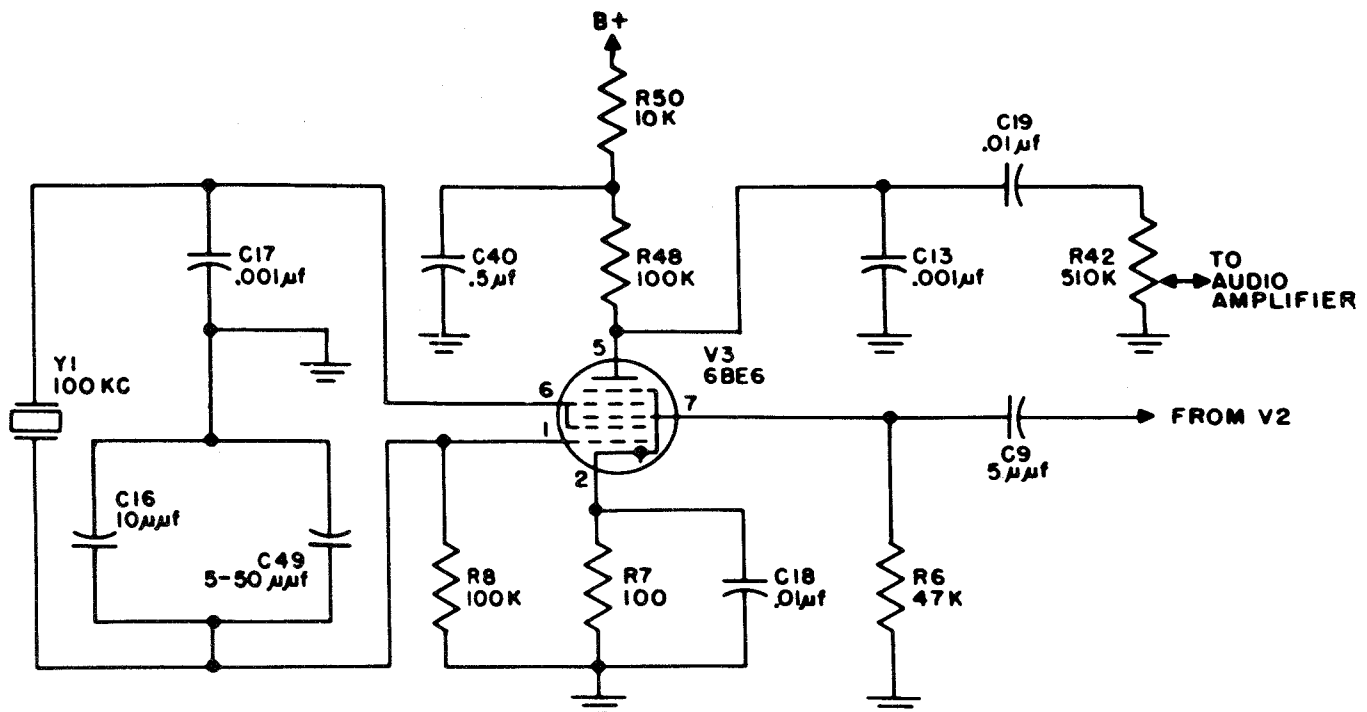

Figure 2-8. Calibrator Oscillator-Mixer, Simplified Schematic
b. CRYSTAL CALIBRATION OSCILLATOR MIXER V3. (See figure 2-8.)—A 100 kilocycle crystal oscillator is used to calibrate the variable oscillator frequency.